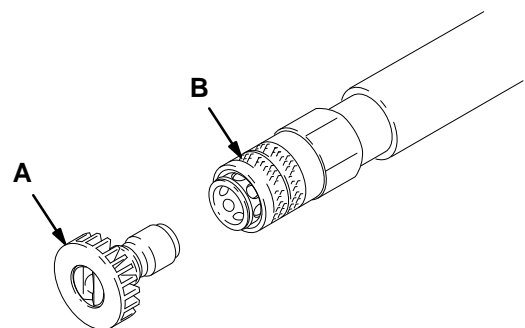

Figure 3
4. Without holding your hand over the spray tip (A), pull back the quick coupler ring (B). Remove the current tip and/or install a different one, and then push back the ring. See Figure 3.